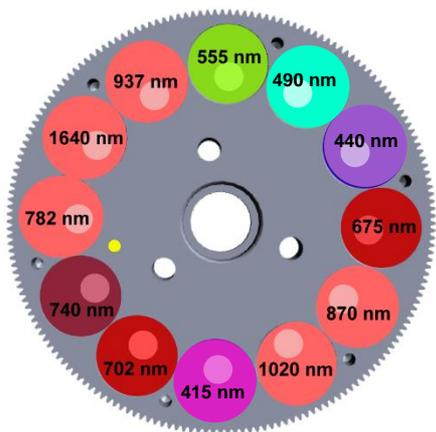

Figure 4 : BRDF 12 filters type (CE318-TU12)
- **BRDF 12 filters / CE318-TU12:** It is designed for satellite calibration. It uses 415, 440, 490, 555, 675, 702, 740, 782, 870, 937, 1020, 1640 nm filters (Fig.4).